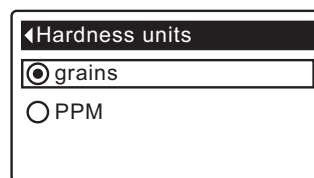

FIG. 53
1. From any of the rolling status screens, press the SELECT (O) button to display the **Main menu**.
3. Press the SELECT (O) button to display the User preferences menu.
5. Press the SELECT (O) button to display the Hardness units menu (See Figure 53).
6. If the desired hardness unit already has a black dot next to it (See Figure 53), go to Step 7. Otherwise, press the DOWN (▼) or UP (▲) buttons to scroll to the other hardness unit, then press SELECT (O) to choose it.
7. Press the SELECT (O) button. The display will go back to the User preferences menu.